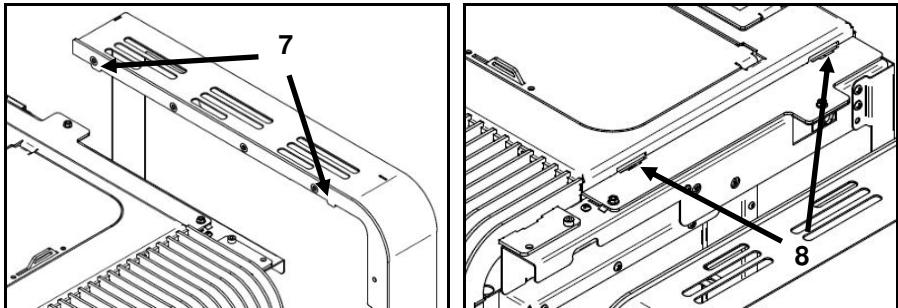

Figure 40 - Assembly of the Aspen covers
- h) On the **Aspen** equipment, first fit the lower holes **5** of the side covers into the guides **6** at the bottom of the machine, then in the downward direction to fit the tabs **7** in the slots **8**, as shown in Figure 40.